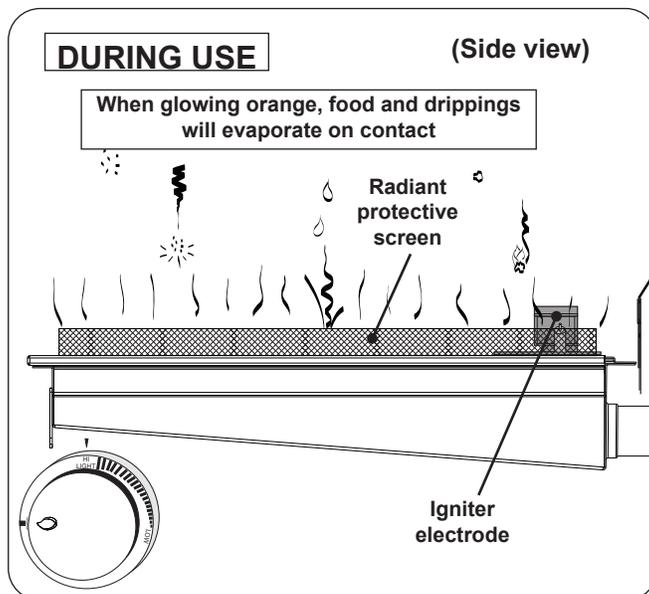

Fig. 8-3 Infrared burner - DURING USE
- **DO NOT place food on the cooking grid until the infrared burner glows orange (Fig. 8-3).** Drippings are heated and evaporate instead of sticking to and impairing burner function.